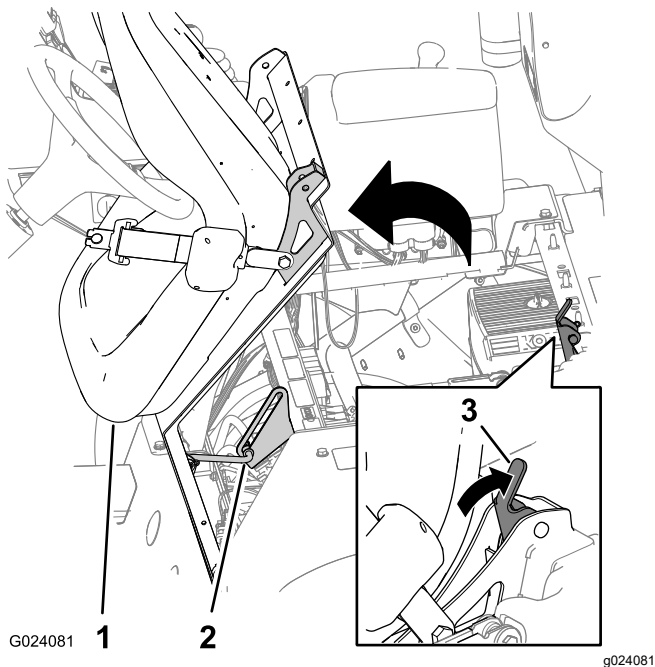

Figure 30
1. Unlatch the seat by pushing the seat-latch handle rearward (Figure 30).
2. Rotate the seat and seat plate forward until the end of the prop rod, at the prop-rod bracket, is at the bottom of the slot in the bracket (Figure 30).